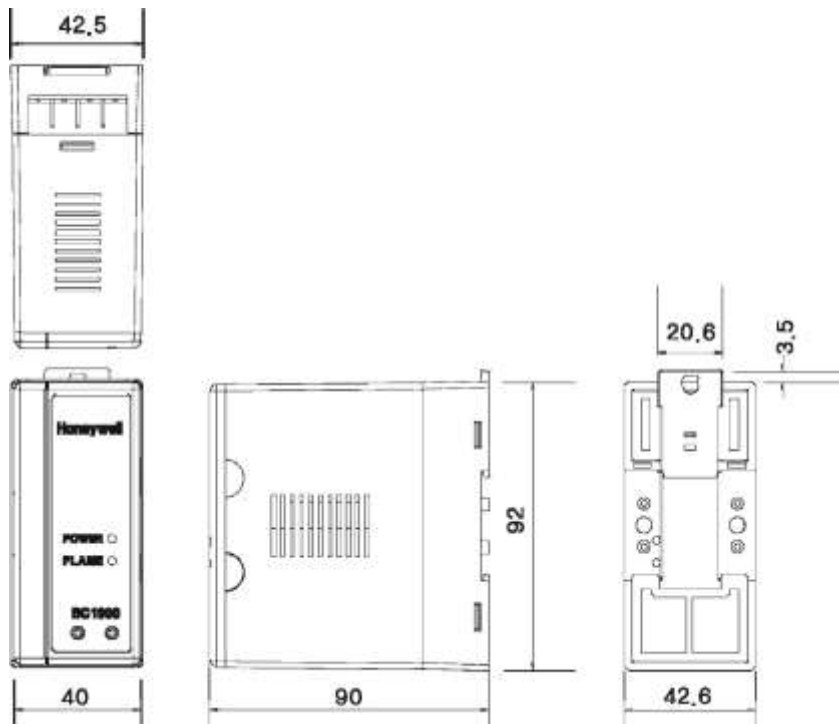

Fig. 2: External Dimensions (in mm)
- 1) Fig. 5 is an example of typical wiring diagrams. Refer Fig. 2 for terminal location